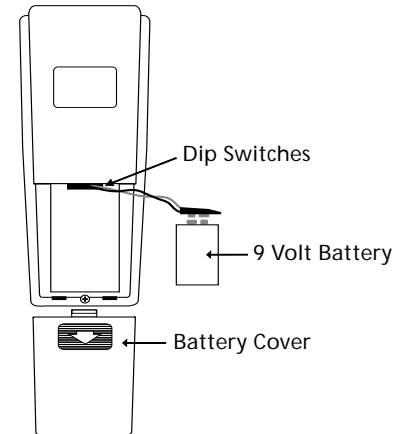

Figure 6a - Setting the Code on the Transmitter
1. Remove the battery cover from the transmitter by pressing down on the arrow and sliding the cover off. Refer to Figure 6a.
- Install a 9 volt battery (not included). Refer to Figure 6a on page 15.